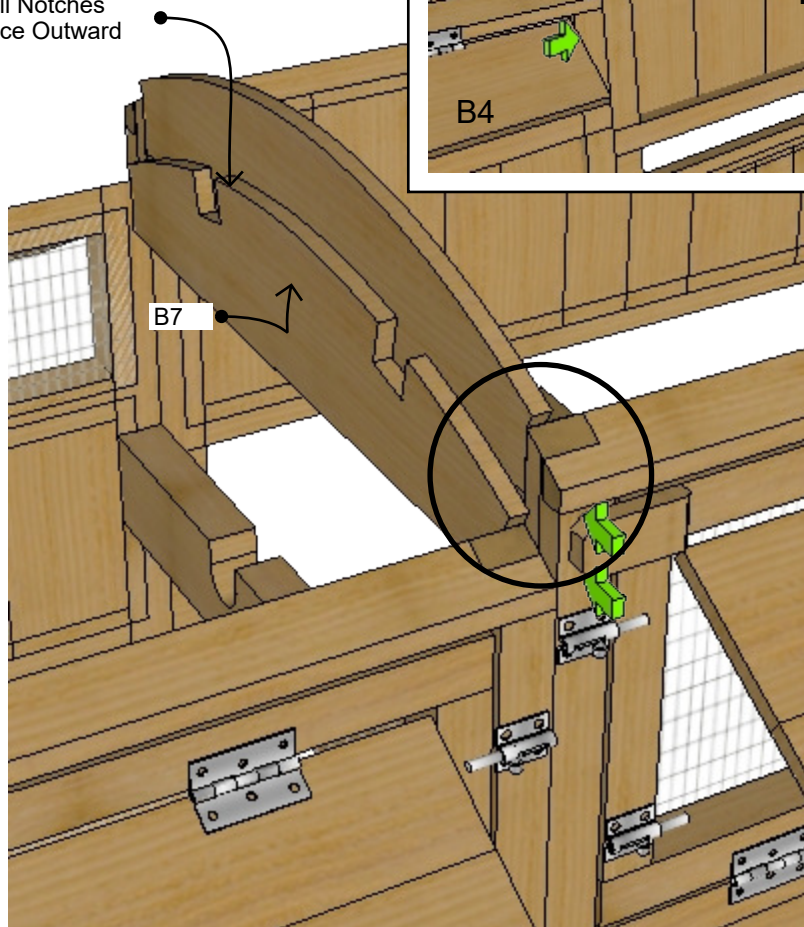

Fig 6b
6.1 Install B5 Middle Front Panel - Place the **B5** Front Panel in between the two **B4** Outer Front Panel and resting on top of the **B17** Legs. Make Edges flush and using **E1** Brown screws, attach driving screws as indicated by arrows in **Fig 6b**.